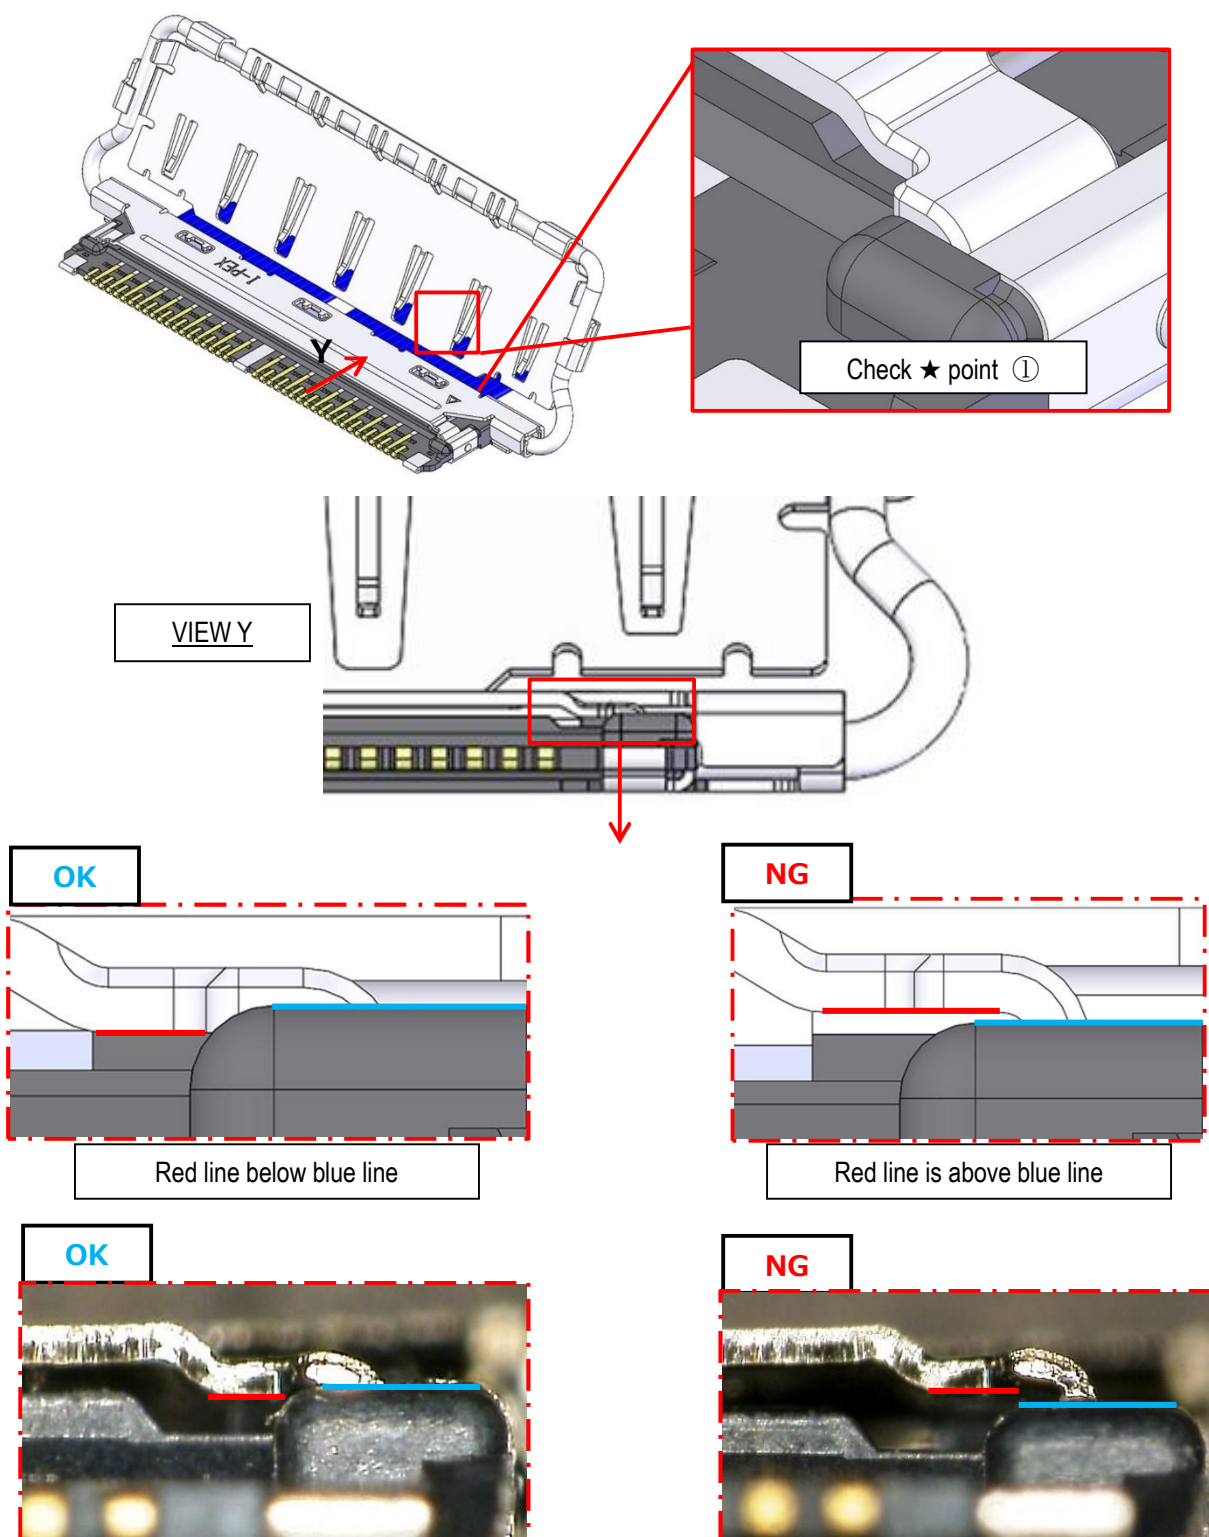

Fig.10 Confirm whether SHELL-A
※Check ★ point ① (Fig.10) from the front of connector as shown below.